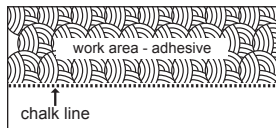

Figure 12a
STEP 4: Installing the Floor (Glue-Down Installations) (Figure 12a-12d)